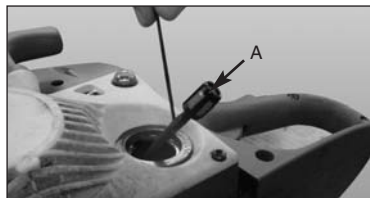

Abb. 19
4. Lift filter (A) out of tank (Fig. 19).